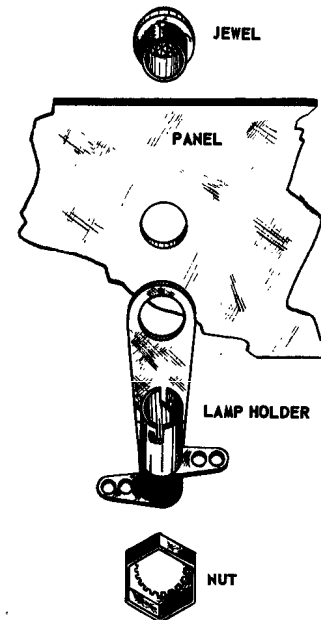

Figure 8.
- ☐ 49. Remove the green jewel from pilot light assembly PL-1 by removing the 7/16" hex nut. Insert the threaded shank of the jewel through the appropriate panel hole from the front of the panel. Slip the pilot light socket bracket over the threaded shank of the jewel (rear side of panel). Add the 7/16" hex nut, position assembly properly and tighten the nut securely. See Fig. 8.